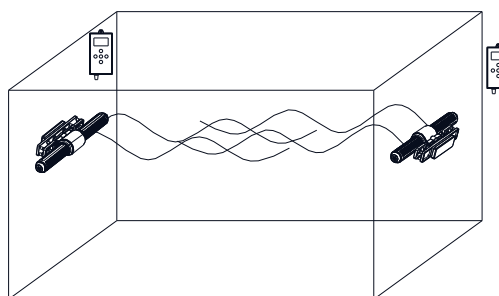

Figure 3
4. The pump is perfect for aquariums with an edge length of over 2M. Ideally, you should use two wave pumps on opposite sides. (Figure 3)